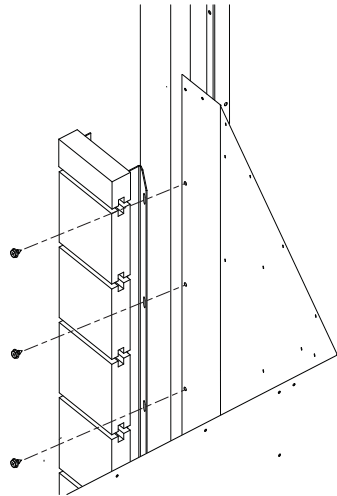

Figure 21 - Installing Leading Bricks
1. The firebox is shipped with the firebrick wall retaining brackets preinstalled. There are a total of six (6) brackets. Remove these brackets before installing any of the firebrick walls.
4. Install the left and right leading bricks. Set the firebrick wall on the hearth with the sheet metal side toward the firebox surround. The bricks will be flush with the face of the fireplace. Secure with screws provided as shown in Figure 21.